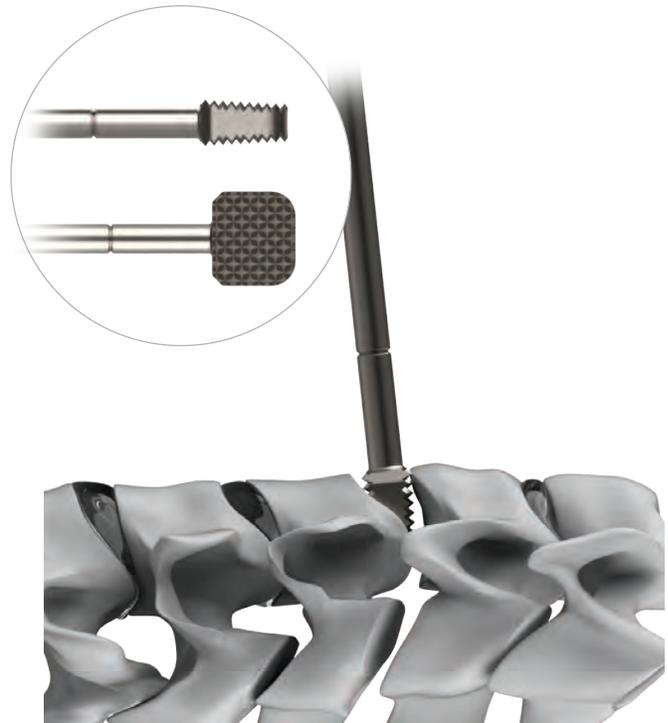

Figure 4
- Rasps can be used sequentially, in 1 mm increments, to remove the superficial layer on the endplates (Figure 4). This will aid in creating bleeding bone to promote spinal fusion. Appropriate endplate preparation will optimize surface contact with the selected interbody.